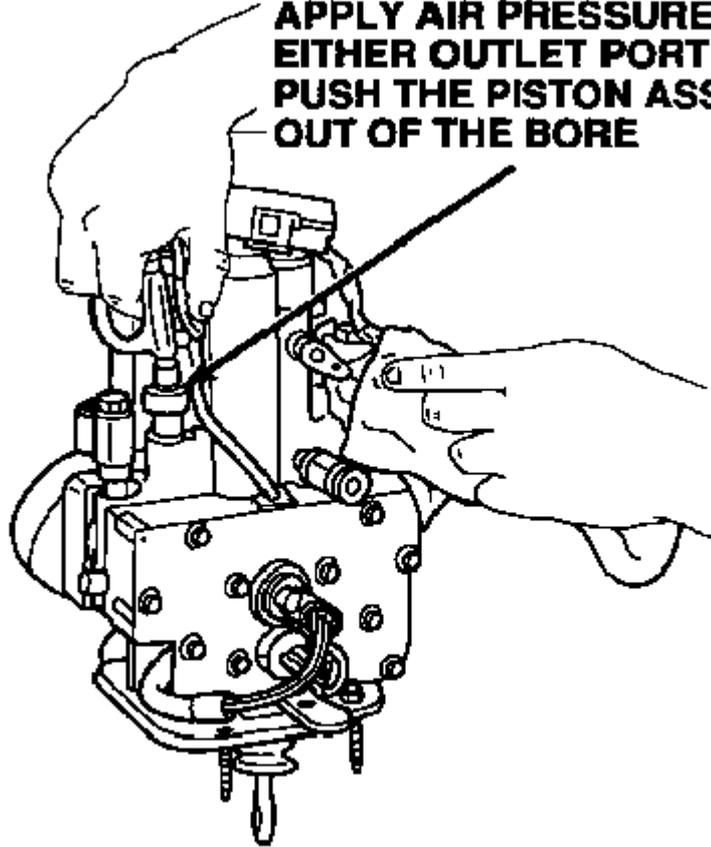

Figure 11
12. Place a cloth over the outlet ports of the unit. While holding the cloth in place, apply pressure from a regulated air nozzle to the front of the actuator, to expel the secondary piston assembly from the bore (Figure 11).